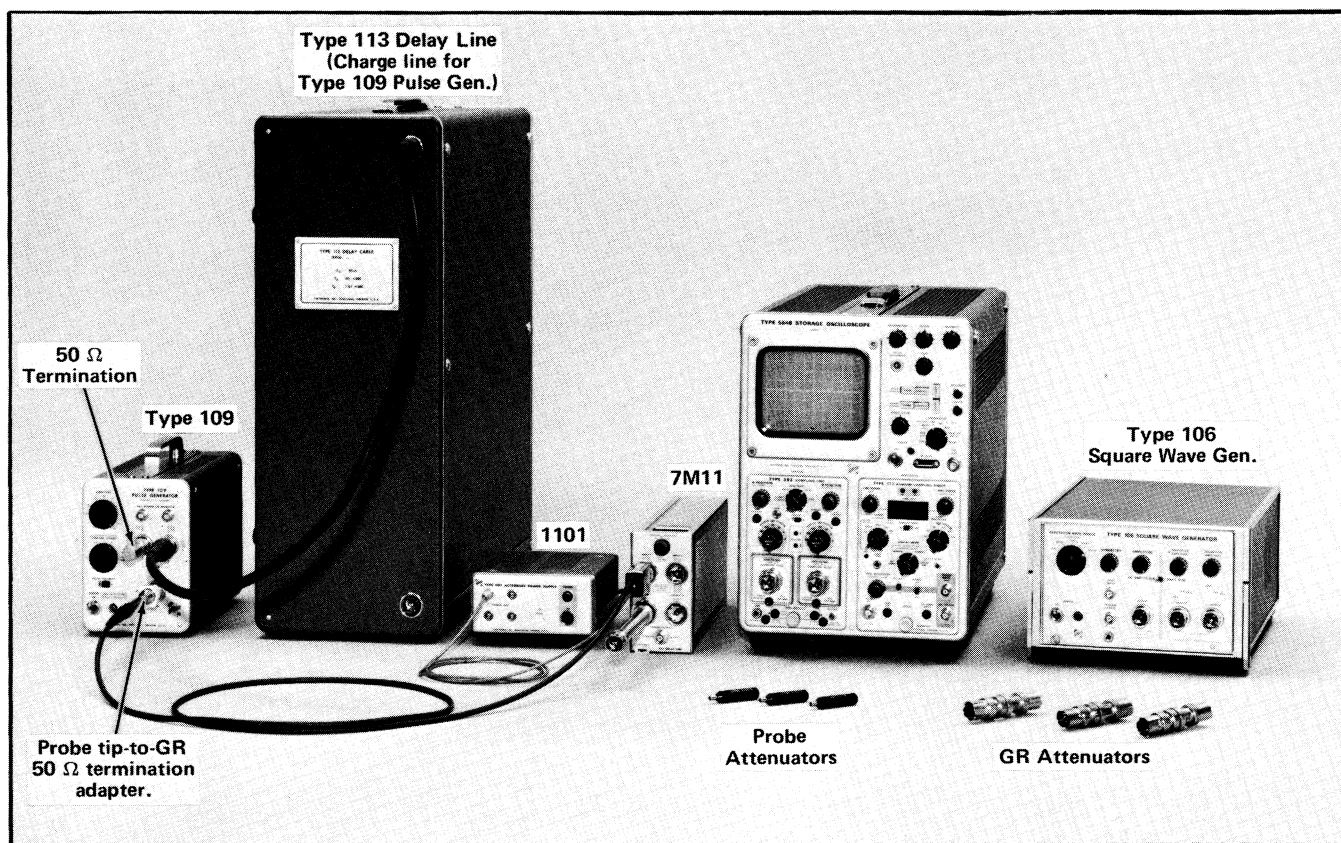

Fig. 5-5. Equipment setup to check and adjust attenuator compensation and check step response of the probe with attenuators (steps 6 and 7).
a. Equipment setup is shown in Fig. 5-5.
1) Use a delay line with trigger output (7M11) between the probe output and the input to the sampling amplifier (S-2 Sampling Head). Connect Output 1 of the 7M11 through a 20 cm air line or 5 ns coaxial cable to the Input of the S-2 Sampling Head. Connect a cable between the delay line Trigger Output and the Trigger Input for the sampling sweep unit. Switch the delay line Trigger Selector (7M11) to the respective delay channel (1).